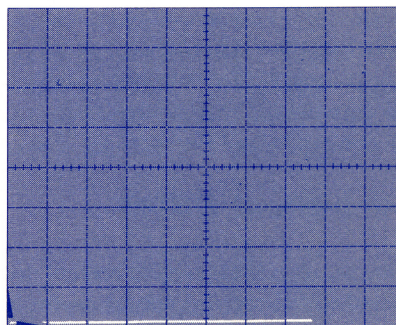

Figure 2-1. Display of peak-point voltage.
- 3) Apply power to device — Position LEFT-RIGHT switch on 177 to appropriate side. Increase VARIABLE COLLECTOR % supply until trace jumps from mostly horizontal to more vertical. See Figure 2-1. **34 8 33**